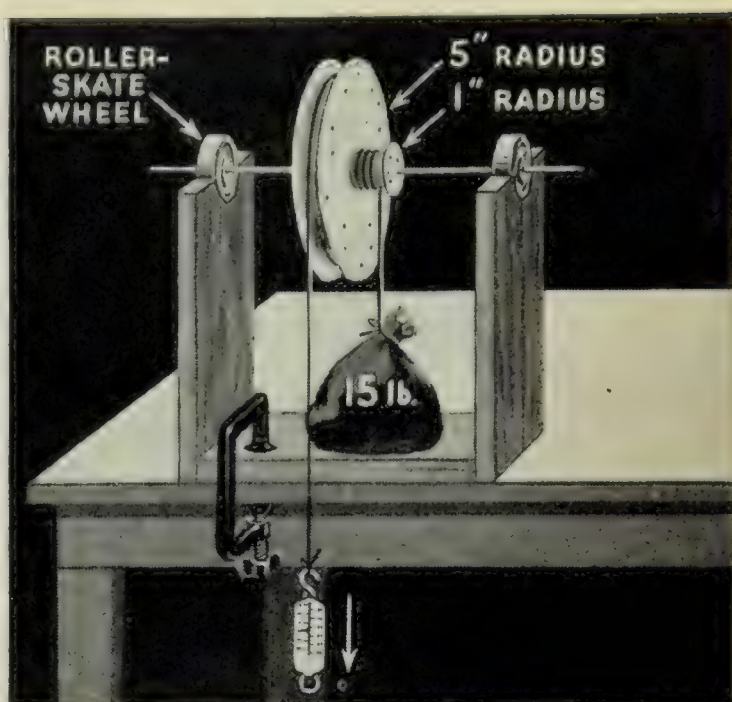

FIG. 278. Apparatus for Experiment 68
**Experiment 68. HOW DOES A WHEEL AND AXLE MAKE WORK EASIER?** In your school workshop or at home, make a piece of apparatus like the one in Figure 278. Oil the bearings. Fasten a fifteen-pound bag of sand to a small nail driven into the axle. Adjust the apparatus so that when you pull down on the heavy cord attached to the rim of the wheel, the cord will roll around the axle and lift the weight. Be sure to clamp the apparatus to the table.